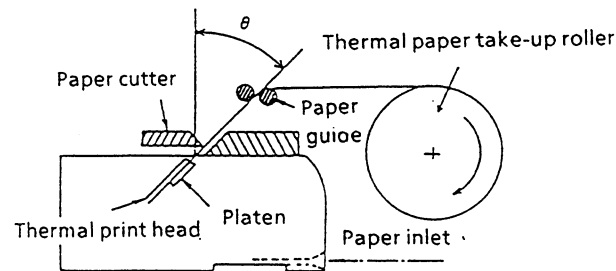

Figure 6-10 Incorrect Thermal Paper Take-up Device Design
- Even when paper guides have been attached as shown in Figure 6-10, if the thermal paper is pulled taut, correct contact between the thermal head and the thermal paper can not be obtained and printing will be adversely affected.